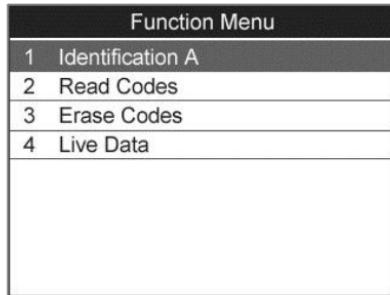

Figure 11.3
- 1) From the function menu (Figure 11.3) use the **UP/DOWN** scroll button to select **Read Codes** and press the **OK** button.
- 1) From the function menu (*Figure 11.3*) use the **UP/DOWN** scroll button to select **Erase Codes** and press the **OK** button.
- 1) From the function menu (*Figure 11.3*) use the **UP/DOWN** scroll button to select **Live Data** and press the **OK** button.
- 1) From the function menu (*Figure 11.3*) use the **UP/DOWN** scroll button to select **Identification A** and press the **OK** button.